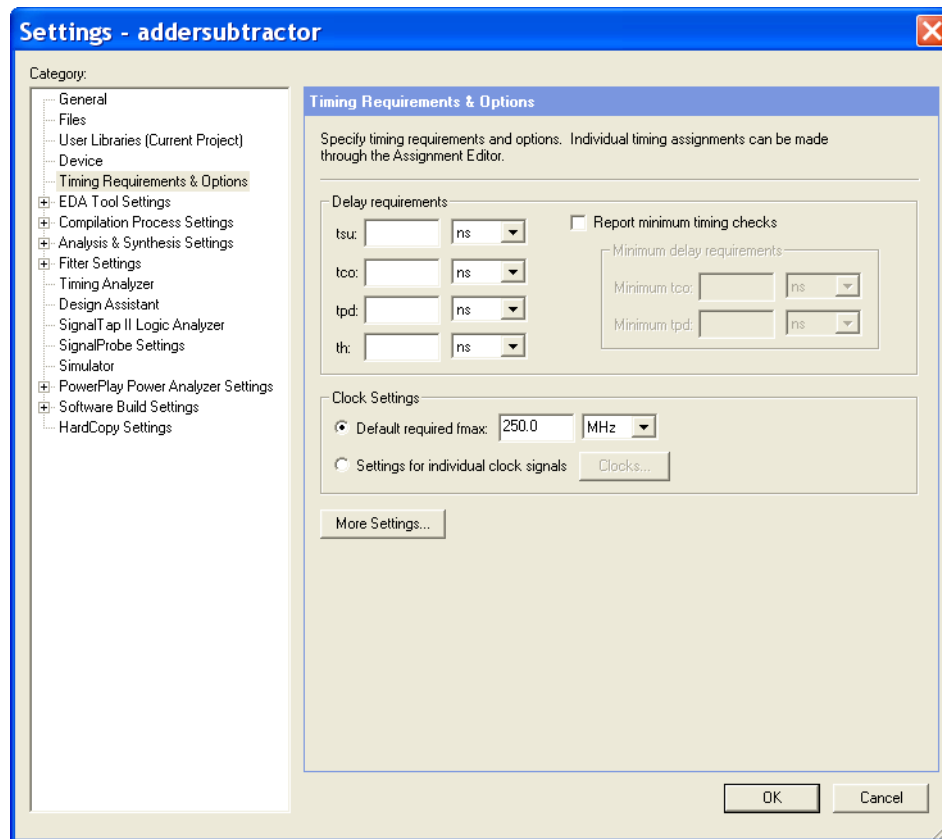

Figure 7. Specify the timing constraints in the Settings window.
1. Select Assignments > Timing Settings to reach the Timing Requirements & Options window in Figure 7. In this window it is possible to specify the requirements for a number of different parameters.